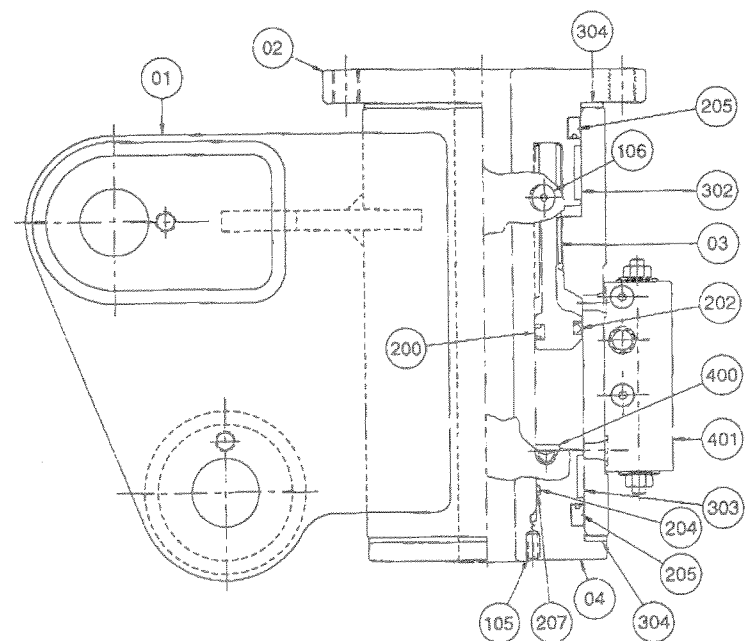
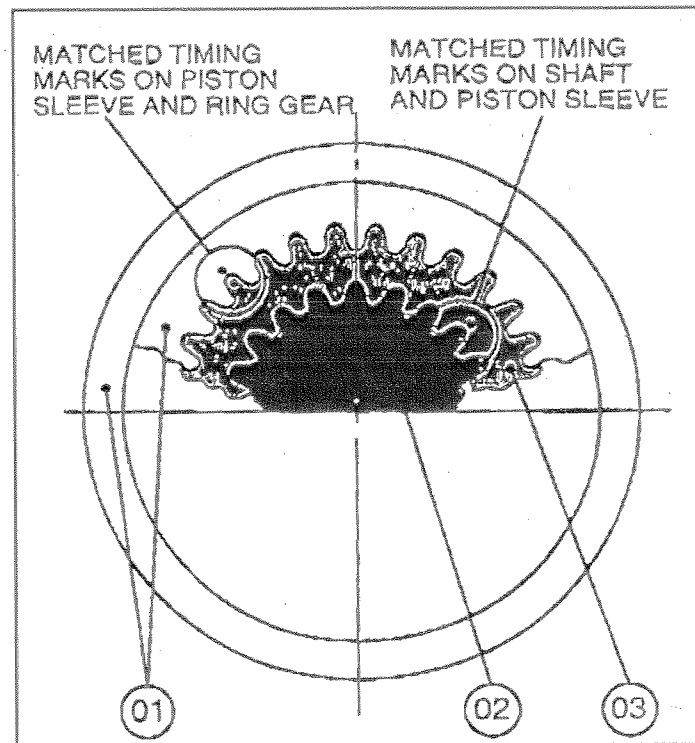

Figure 3-25
Figure 3-27
Place on a clean workbench with ample room for all internal parts as they are removed. Remove all hydraulic fittings. Loosen set screws (105) and unthread end cap (04). Use a small grinder to remove the set screw thread stakes if necessary. Remove the stop tube (400), if furnished. The shaft is now free to move up and out of engagement with the piston sleeve (03). Note the timing marks on the spline teeth - small punch marks on the face of each gear, See Figure 3-27. Correct orientation of the marks will greatly simplify actuator timing upon reassembly. *Do not remove any component without first locating the timing marks.*
Wash all parts thoroughly in cleaning solvent and blow dry. Coat all sealing and working surfaces with a good grade hydraulic oil. Install seals and bearings in the piston sleeve, shaft, and end cap oriented as seen in Figure 3-25. The gap on the wear rings (302) (303) should not exceed .125". Place the actuator in a vertical position and install the piston sleeve (03) in timed relation to the housing. Apply firm pressure as the new seals enter the housing and become compressed by the housing chamber. **CAUTION:** Take care to insure the piston sleeve does not mar the cylinder bore. The timing marks must be aligned for proper shaft orientation, see Figure 3-27.
The shaft (02) is installed by again aligning the proper punched timing marks, see Figure 3-27. Use masking tape to temporarily tape the threaded portion of the shaft to help clear the piston seal (200). Turn the actuator upside-down and install the stop tube (400), if furnished.